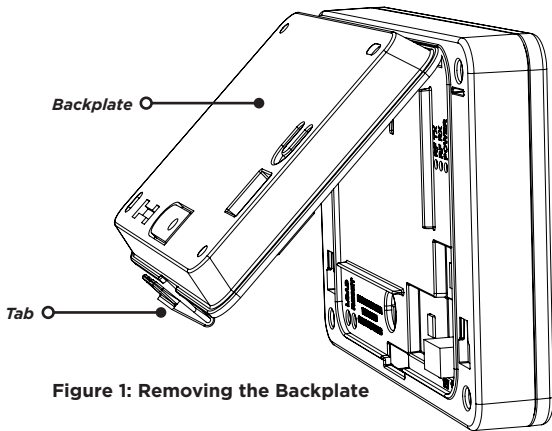

Figure 1: Removing the Backplate
1. Press the tab and remove the backplate from the XTLtouch. See Figure 1.